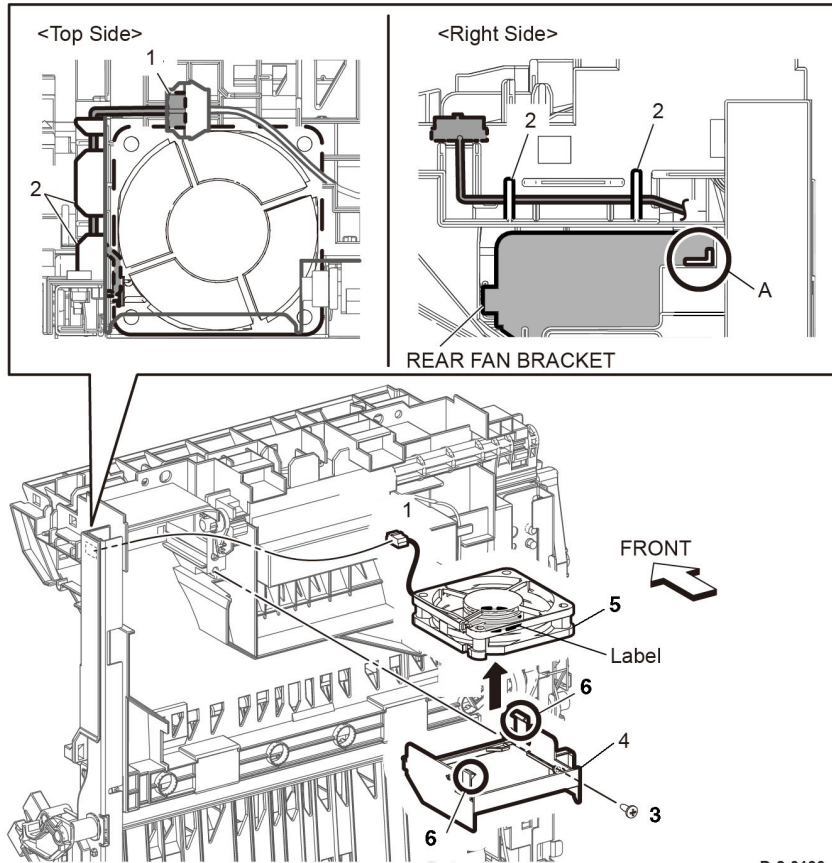

Figure 2 Rear fan removal
2. Remove the rear fan, **Figure 2**:
- a. Disconnect P/J298 (1), then release the rear fan harness from the harness guide (2).
- b. Remove one screw (3), push part A to remove the rear fan bracket (4) and rear fan (5), together.
- c. Release two hooks (6), then remove the rear fan (5) from the rear fan bracket (4).